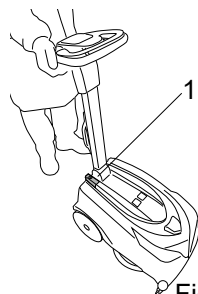

Fig.10
- Press the main switch (fig. 10, ref. 1) to turn on the machine.